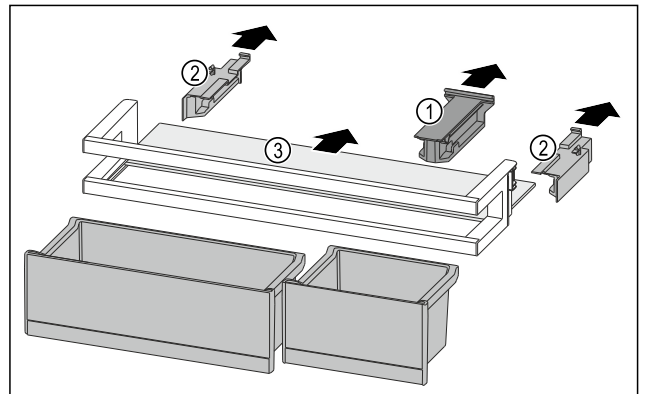

Fig. 93
- ▶ Pull off the holding part Fig. 93 (1).
- ▶ Pull off the side parts Fig. 93 (2).
- ▶ Remove the shelf Fig. 93 (3).